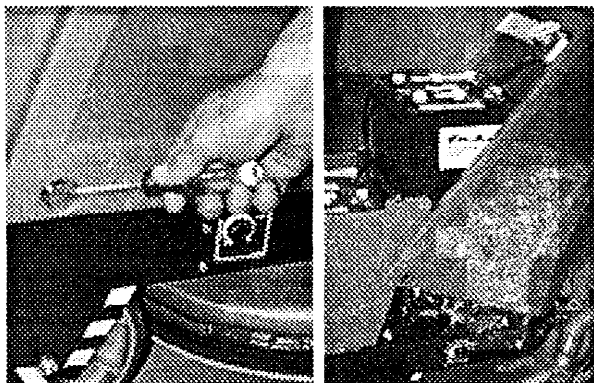

FIG. 30.
5. Next, remove (2) thumb nuts, using a screwdriver, and hinge open rear control housing to access the top two batteries. (Figure 30)